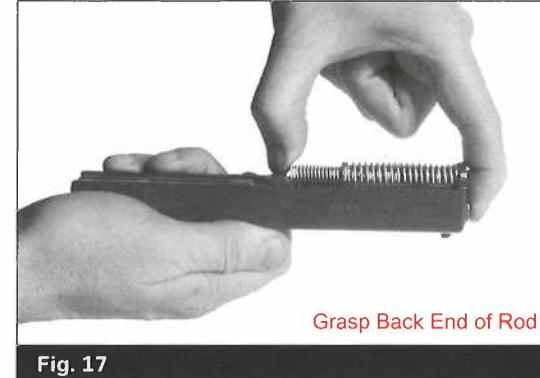

Fig. 17
- With thumb and forefinger, grasp the recoil spring assembly near the end that is against the barrel lug. The spring is "captured" on the rod and compressing the spring about 1/4 in. (6 mm) will allow it to be removed. (Fig. 17/18)